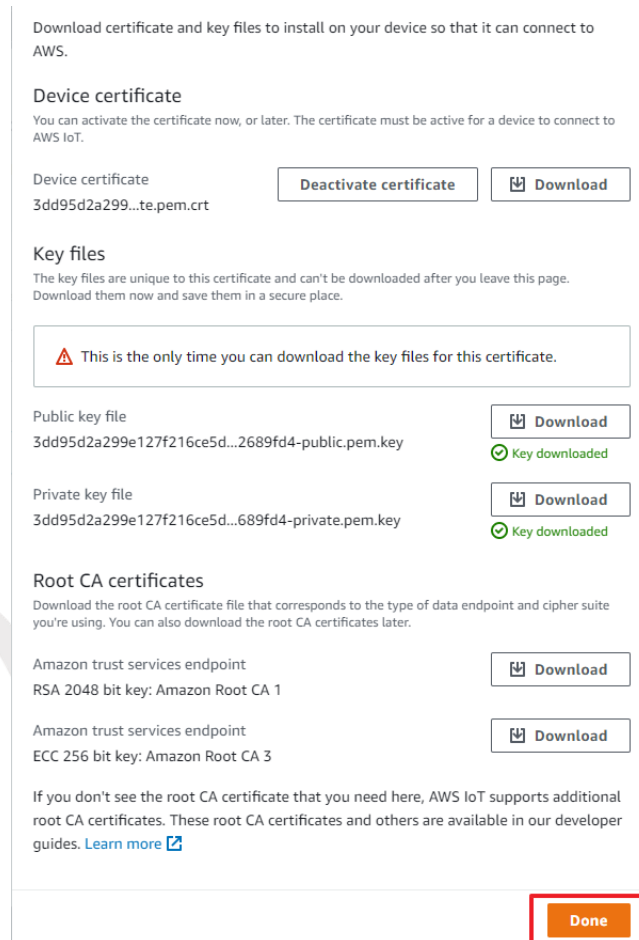

Figure 4-133 Download the Certificate of Thing
- Next, an automatic prompt will appear to download the certificates. Download all the certificates and click "Done" to complete the Thing creation (as shown in Figure 4-133). You can then verify the certificates by expanding the "Secure" section on the left-hand side of the dashboard, selecting "Certificates," and confirming the presence of the newly created certificates. By clicking on a certificate, you can view the associated Thing and Policy. **It is recommended to delete and recreate the Thing, Policy, and certificates if any modifications to the Policy or Thing are required.**